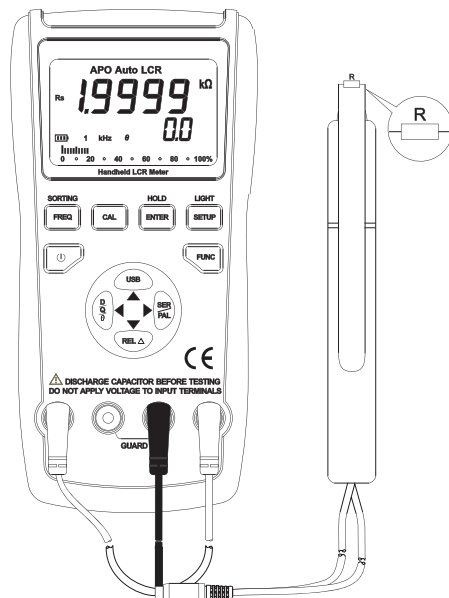

Figure 12
- 3) Insert resistance into testing port or connect corresponding fittings to measured capacitance (shown in Figure 12).